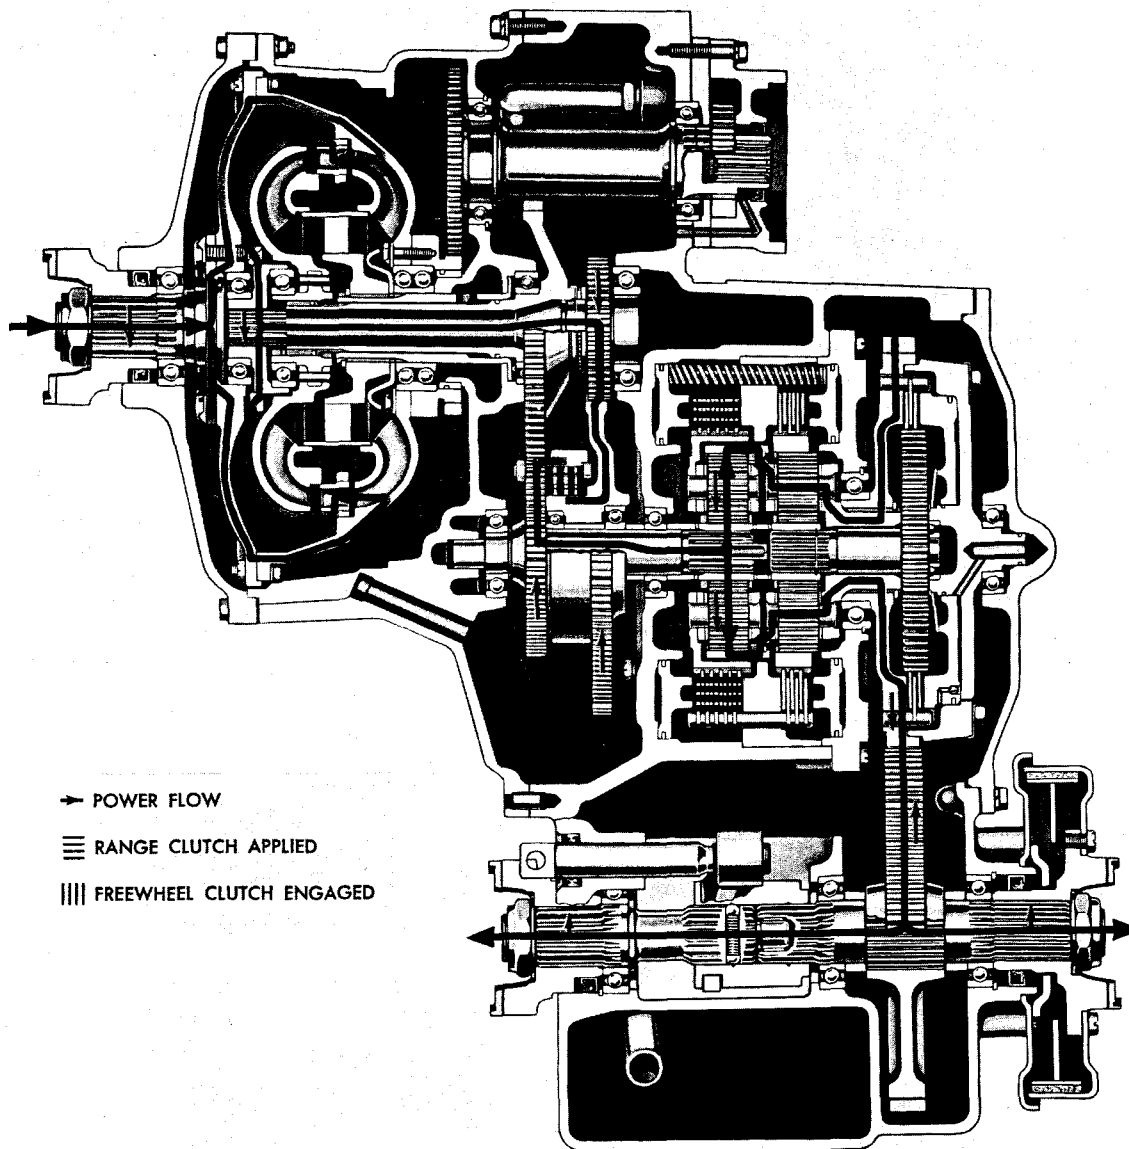

Fig. II-11. Reverse, first turbine—torque path
(5) When the inching control valve is returned to released (full leftward) position, full clutch apply pressure is restored after the trimmer valve acts as explained in para 15e, f and g, above.
(6) Refer to para 25 and 26, below, and fig. II-11 and II-12 for corresponding transmission torque paths.
(2) Refer to para 17a, above, for explanation of the clutch cutoff valve when applied.
(3) Refer to para 25 and 26, below, and fig. II-11 and II-12 for corresponding transmission torque paths.
a. Fig. II-11 illustrates the torque path through the transmission in reverse range when load demand is high. The engine torque is transmitted to the range gears in the manner described in 21a, above.